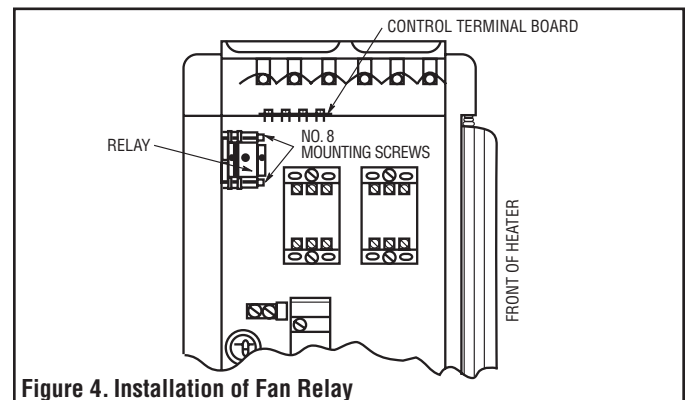

Figure 4. Installation of Fan Relay
1. Mount relay in control compartment with two No. 8 mounting screws as shown in Figure 4.
1. Mount relay in baffle compartment with two No. 8 mounting screws as shown in Figure 4.